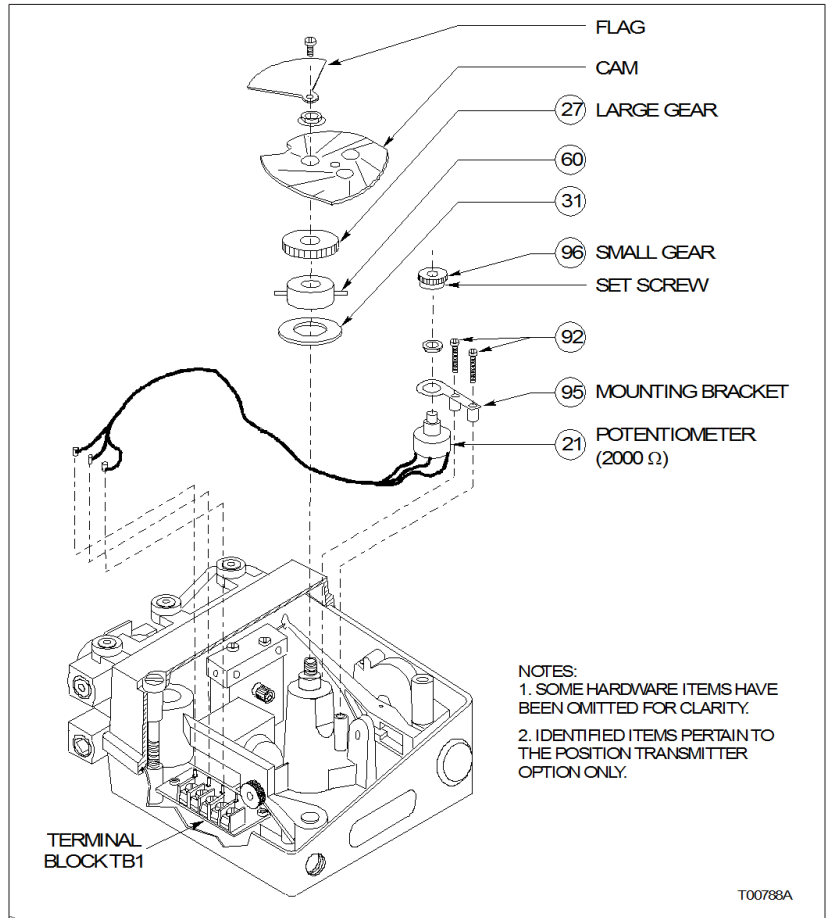

Figure A-3. Potentiometric Position Transmitter (Exploded View)
- a. Remove the cam by removing the screw, flag, nut and washer (Fig. A-3 and Table A-1).
- b. Loosen the set screw on the hub of the small gear using a $\frac{1}{16}$ -in. Allen wrench (Fig. A-3 and Table A-1).
NOTE: If the mesh between the large and small gears is not tight, adjust the position of the potentiometer mounting bracket (Fig. A-3 and Table A-1) so that backlash is eliminated.
e. Remove the ohmmeter from TB1-1 and TB1-2. Install the cam, screw, flag, nut and washer (Fig. A-3 and Table A-1).